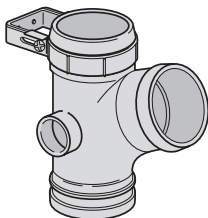

Fig.9c 144 Bracket on fitting
**Step 3** – Locate strap tongues outside backplate (Fig.9c)